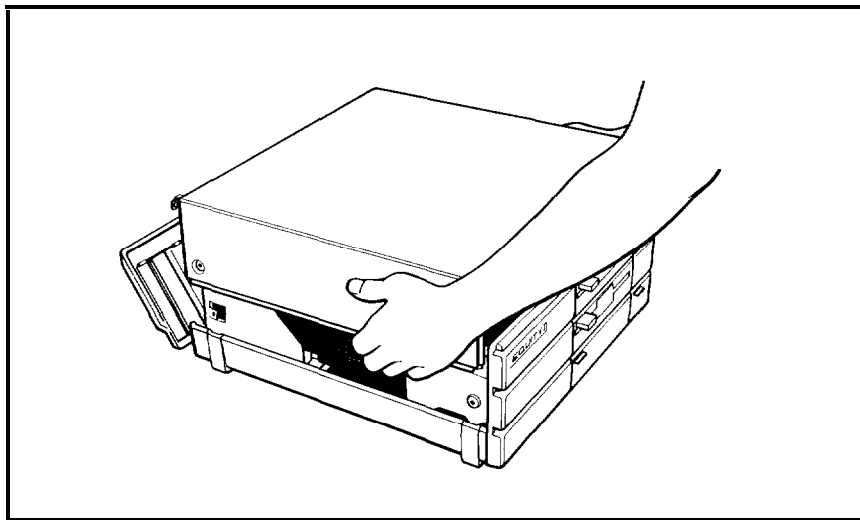

Figure 5-3. Removing cover
4. Figure 5-3 shows how to tilt the cover up slightly and move it away from the main unit. Set the cover aside for now.